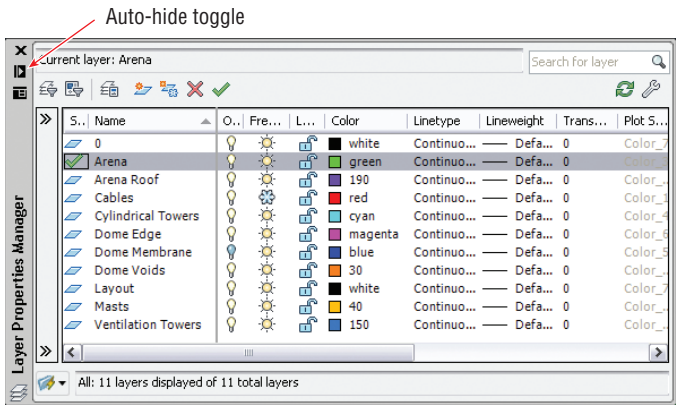

FIGURE 17.3 Changing layer properties
- 8. Click the Auto-hide toggle so that the palette collapses when the cursor isn’t over it (see Figure 17.3).